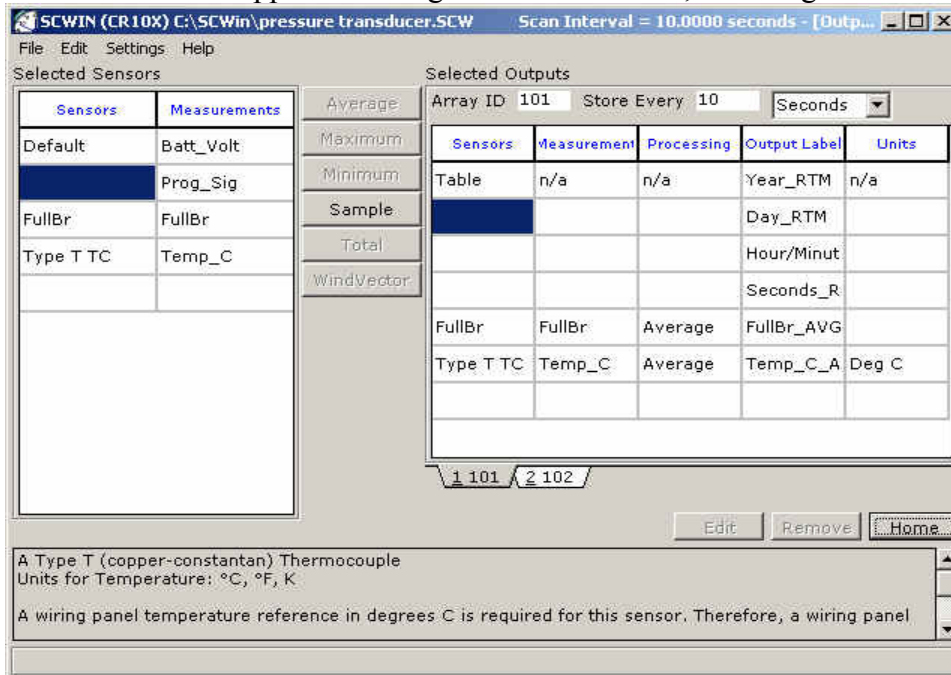

Fig. 13 Definition of output for transducer and thermocouple
- From the home screen click “Output”. Choosing output preferences will be similar to Example 1. Select transducer by clicking on “FullBr” under “Selected Sensors” and then place it in the “Selected Outputs” file by choosing “Average”. Repeat this process for the thermocouple. Then under “Selected Outputs” specify the desired data storage interval in seconds or minutes. This appears like Fig 13. Click “Home”, returning to the main menu.